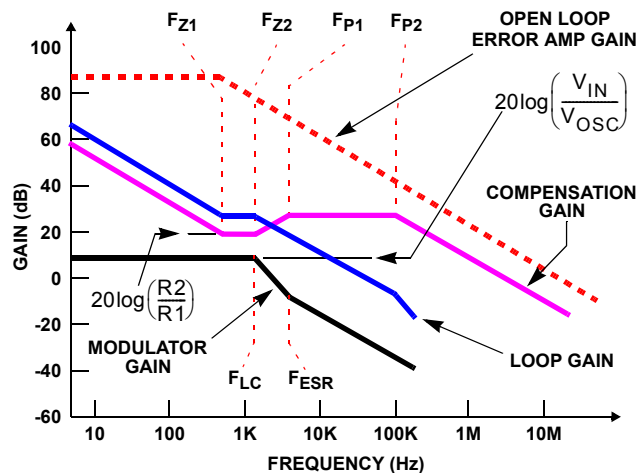

FIGURE 8. ASYMPTOTIC BODE PLOT OF CONVERTER GAIN
Figure 8 shows an asymptotic plot of the DC-DC converter's gain vs frequency. The actual Modulator Gain has a high gain peak due to the high Q factor of the output filter and is not shown in Figure 8. Using the above guidelines should give a Compensation Gain similar to the curve plotted. The open loop error amplifier gain bounds the compensation gain. Check the compensation gain at F_{P2} with the capabilities of the error amplifier. The Closed Loop Gain is constructed on the graph of Figure 8 by adding the Modulator Gain (in dB) to the Compensation Gain (in dB). This is equivalent to multiplying the modulator transfer function to the compensation transfer function and plotting the gain. The compensation gain uses external impedance networks Z_{FB} and Z_{IN} to provide a stable, high bandwidth (BW) overall loop. A stable control loop has a gain crossing with -20dB/decade slope and a phase margin greater than 45 degrees. Include worst-case component variations when determining phase margin.